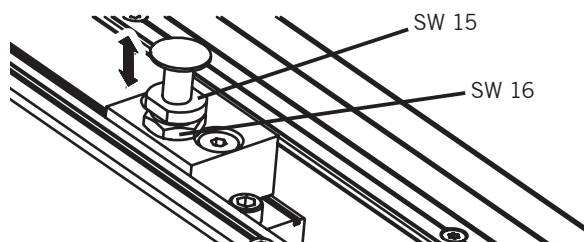

Fig. 28: Align mushroom head vertically
1. Loosen the upper nut with a SW15 wrench while holding the lower nut with a SW16 wrench (Fig. 28).